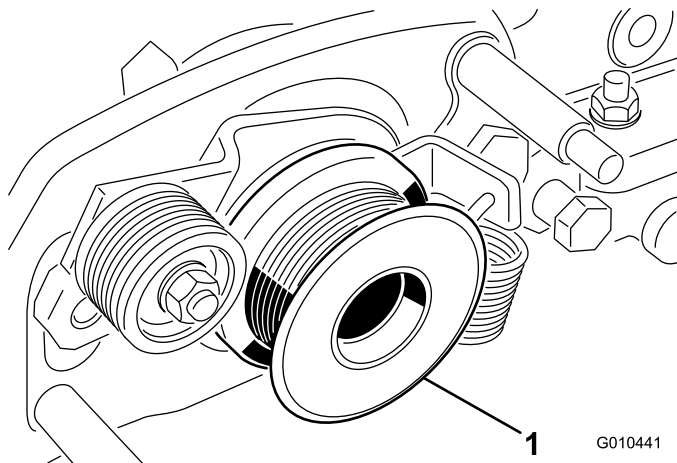

Figure 34
7. Remove the groomer-drive pulley from the reel shaft (Figure 34).